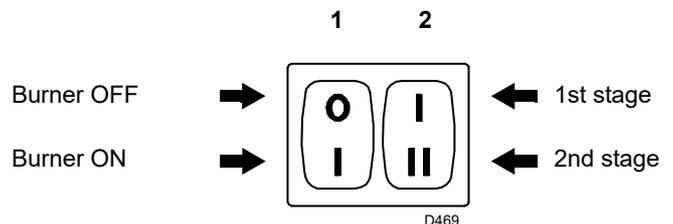
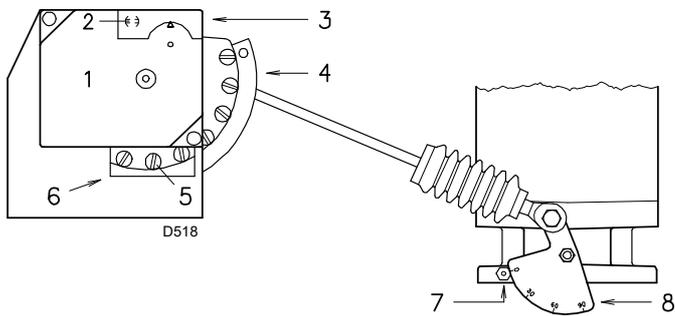

Fig. 25
Fig. 26
- switch 1)(Fig. 25) in "**BURNER ON**" position;
- switch 2)(Fig. 25) in "**1st STAGE**" position.
In the above description, we left the burner running, operating in 1st stage. Now move switch 2)(Fig. 25 on page 24) to 2nd stage position: the servomotor will open the air damper and, at the same time, the gas butterfly valve at 90°.
Progressively adjust the end profile of cam 3)(Fig. 26) by turning the screws 5).
Move the switch 2)(Fig. 25 on page 24) in "1st STAGE" position: the servomotor 1)(Fig. 26) will close the air damper and, at the same time, will also close the gas butterfly valve to 15°, i.e. to the factory setting.
- If it is necessary to increase it, pass to 2nd stage by activating switch 2)(Fig. 25 on page 24) and slightly increase the angle of the orange lever with small, regular movements, i.e. bring it from an angle of 15° to 17° - 19°...
Progressively adjust the initial profile of the cam 3)(Fig. 26) by turning the screws 4). If possible, do not turn the first screw, since this is used to set the air damper to its fully closed position.
Turn off the burner using the switch 1)(Fig. 25 on page 24) and turn the intermediate screws of the cam so that the cam tilt is progressive.